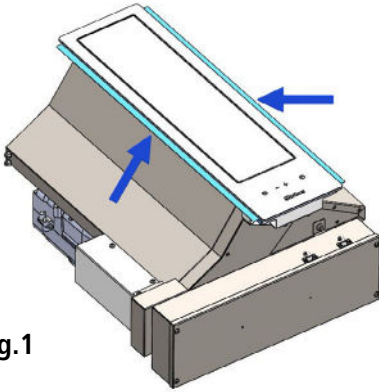
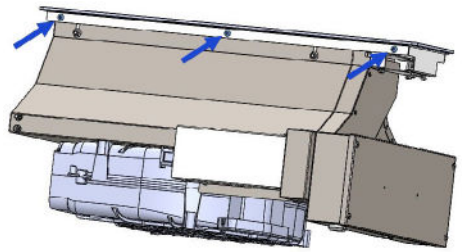

Fig.1
Fig. 2
2. The downdraft is to be installed with a hob on each side. Two angles come fitted to the hood to support the hobs (Fig.1). If these are not needed, they can be removed by removing the screws (Fig.2).